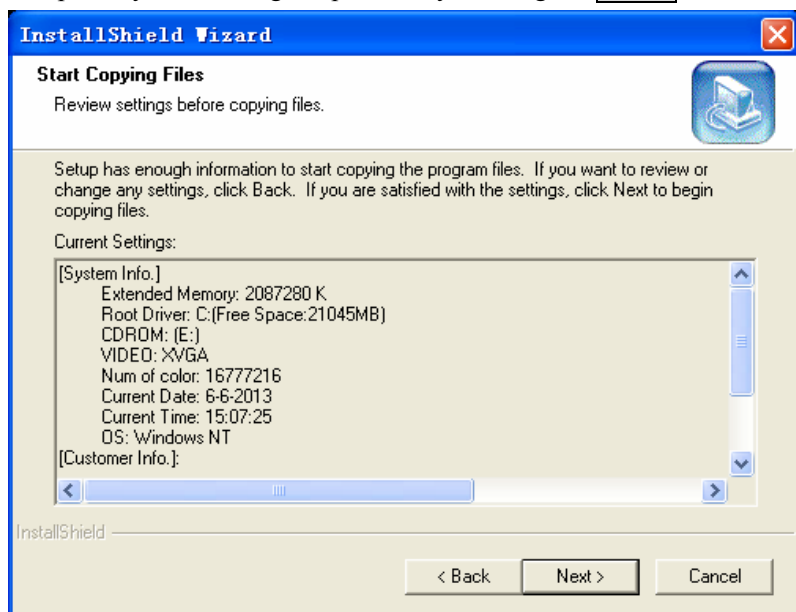
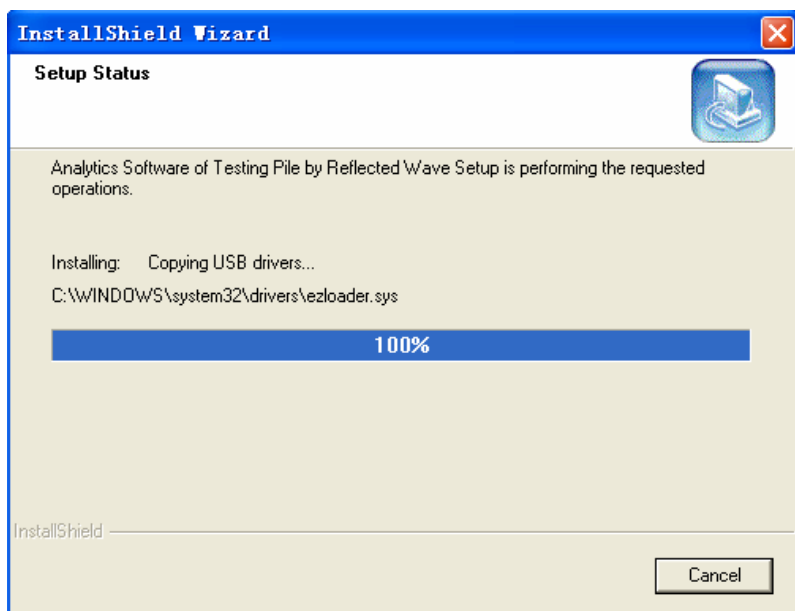

Figure 2.6 Information Browse Dialog Box
Figure 2.7 Installation Progress
4. After selecting a target folder by clicking **Browse** button on the window in Figure 2.5, if click the **Back** button you will return to the interface in Figure 2.4; If click the **Cancel** button you will quit Setup; If click the **Next** Button you will see a pop-up Information Browse interface (Figure 2.6).
5. In the dialog box in Figure 2.6, if click the **Back** button you will return to the interface in Figure 2.5; If click the **Cancel** button you will quit Setup; If click the **Next** button you will begin to copy the files, and it will pop up an Installation Progress dialog box (Figure 2.7). The consumed time is related to the hardware configuration of computer, ranging from a few seconds to a few minutes. You can quit Setup at any time during the process by clicking the **Cancel** button.